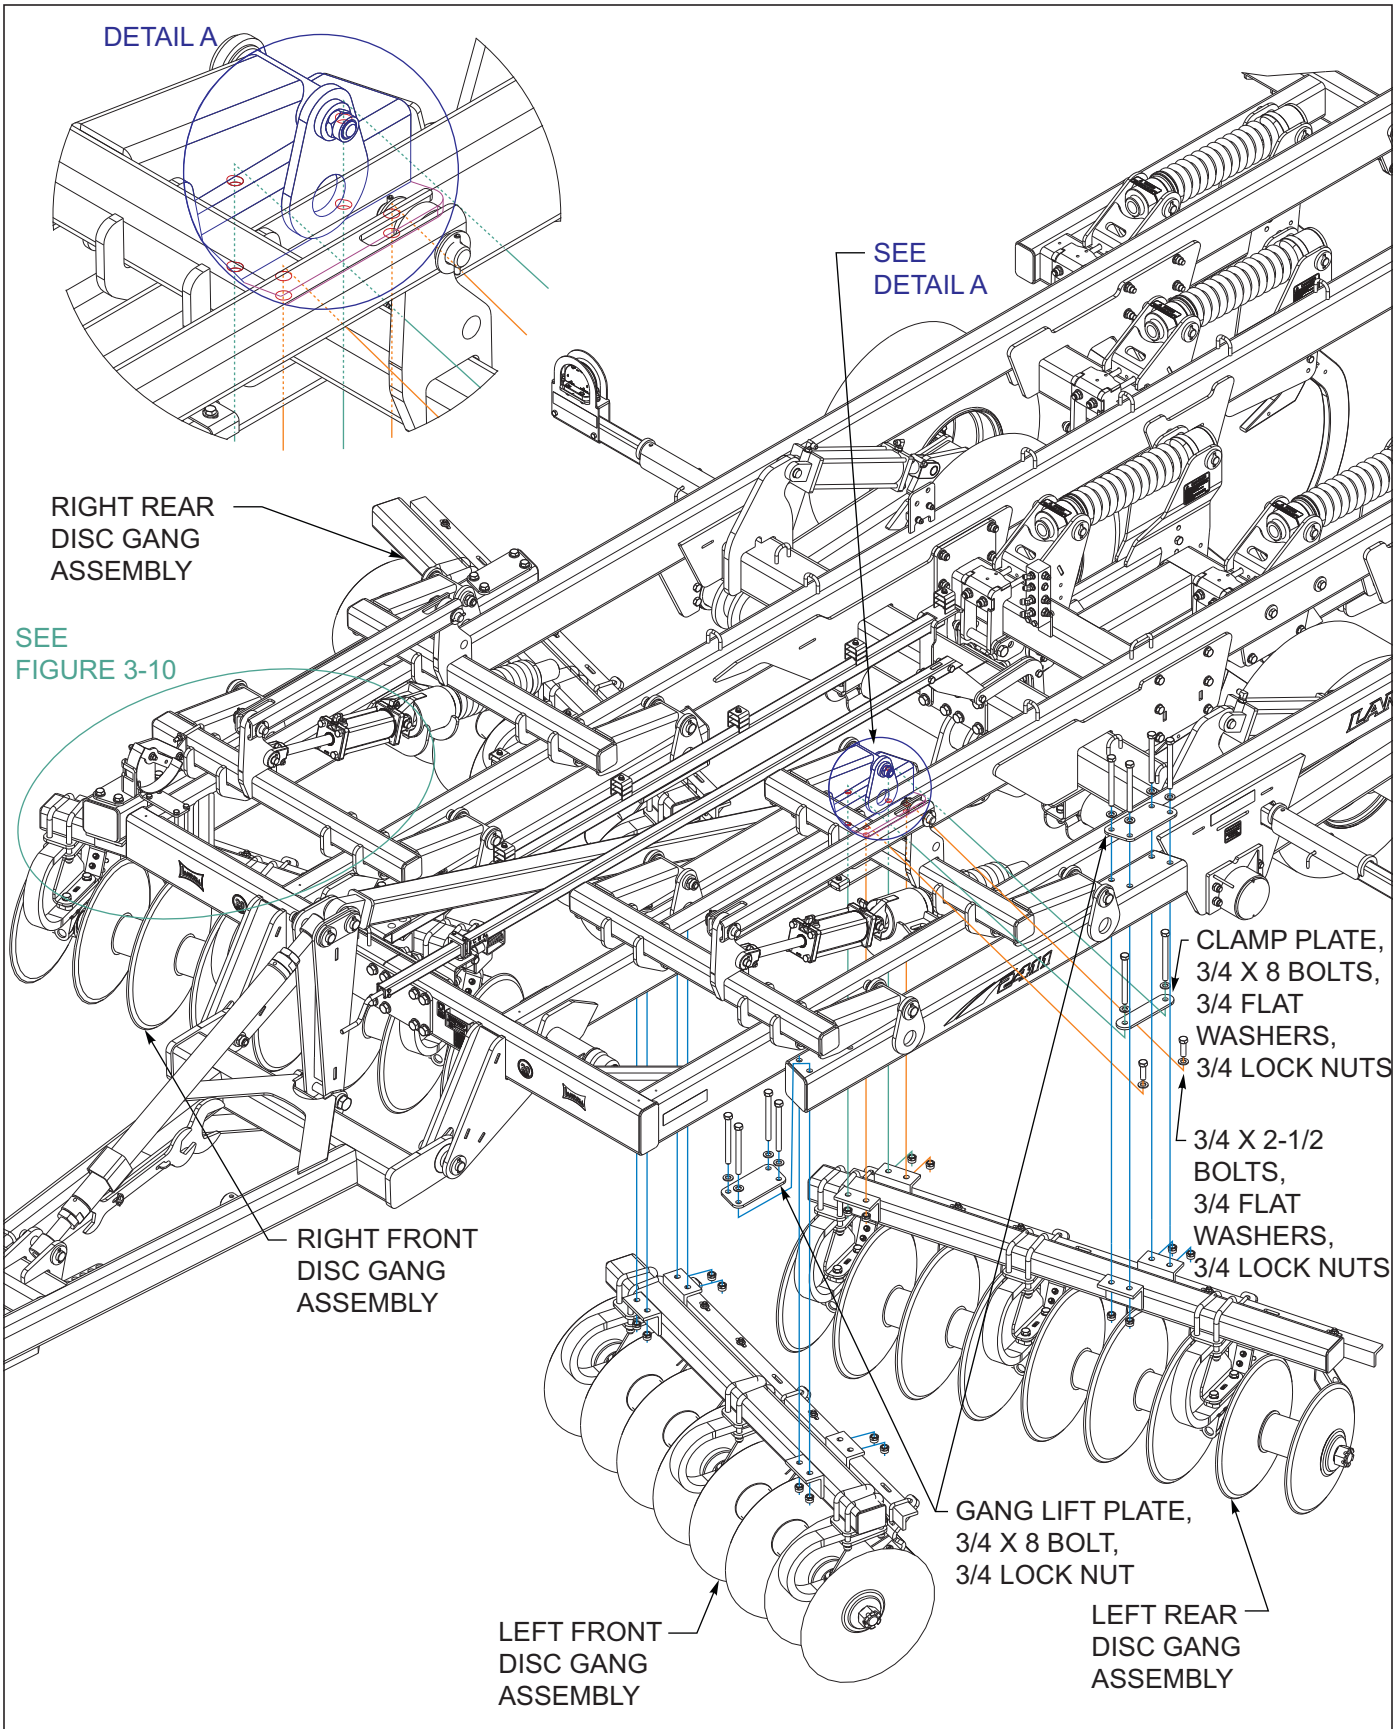

Figure 3-13: Disc Gang & Gauge to Frame Installation 2411-06
1. Remove the 3/4 lock nuts from bottom of wing frame, the 3/4 x 10 bolts, flat washers and gang lift plates may be left on top side of frames, Model 2411-06 *See Figures 3-13*, Models 2411AFG-07-09 *See Figures 3-13*.